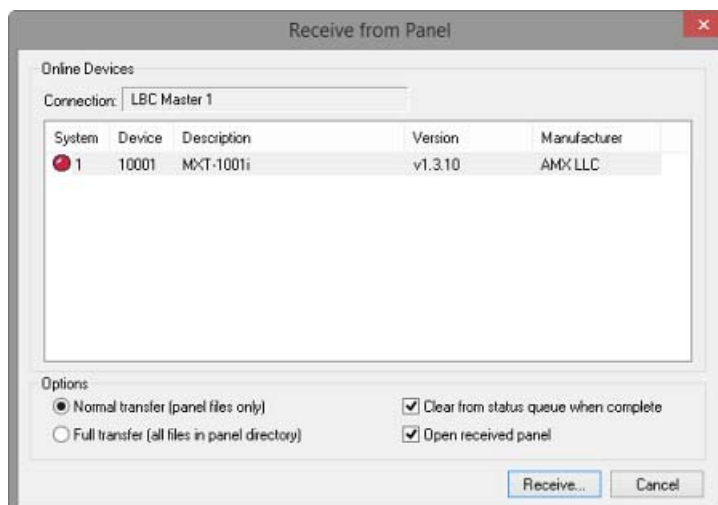

FIG. 419 Receive From Panel dialog
2. Once communication is established, select **Transfer > Receive from Panel**. This opens the *Receive from Panel* dialog (FIG. 419):